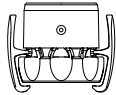

Figure 1
2. Disconnect the leader hose from the cleaner. The leader hose is the hose piece that attaches to the cleaner head, with Quick-Connector (Figure 1) and float.